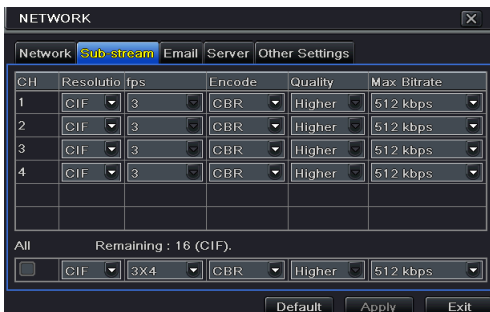

Fig 4-23 Network Configuration-Sub Stream
Step 1: Enter into Menu→Setup→Network →Sub Stream interface. Refer to Fig 4-23: